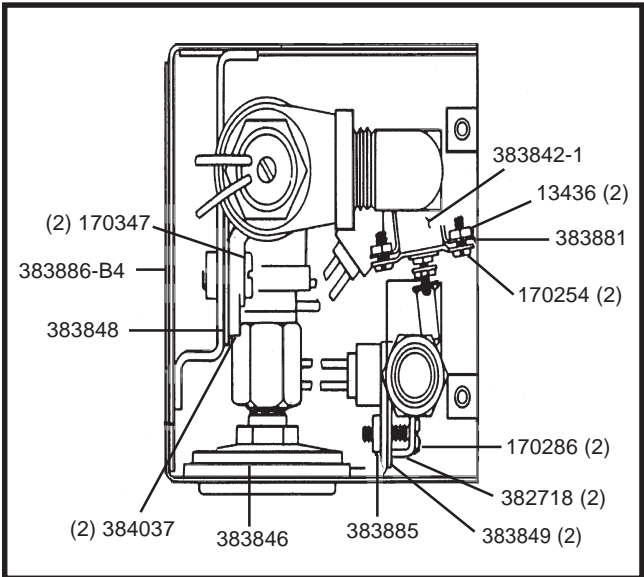

Figure 4b: Enlarged View of End of Air Heater Unit
2. Insert a thin screwdriver through the opening and turn the adjustment screw on Thermostat 383884 (see Figure 4b) clockwise to decrease air temperature or counter-clockwise to increase air